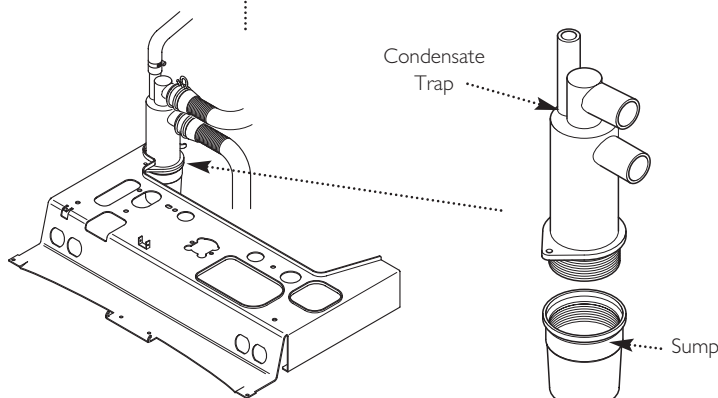

Fig. 64
7. Unscrew the sump from the bottom of the condensate trap assembly (Fig. 64).